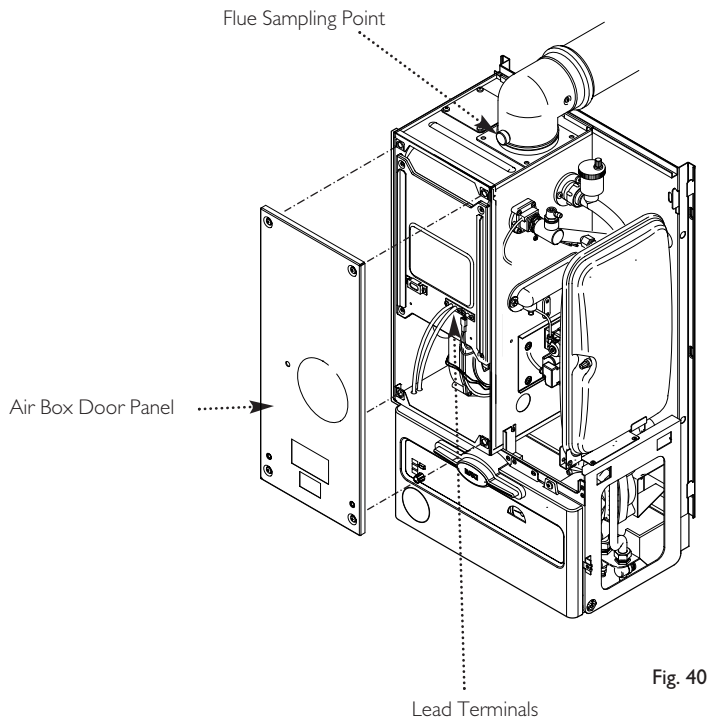

Fig. 40
6. Release the four  $\frac{1}{4}$  turn screws securing the air box door panel and remove the door (Fig. 40).
7. Disconnect the three lead terminals from the combustion box door taking note of their positions (Fig. 40).
10. Check CO/CO2 ratio at the flue sampling point (Fig. 40). See section 4.0.